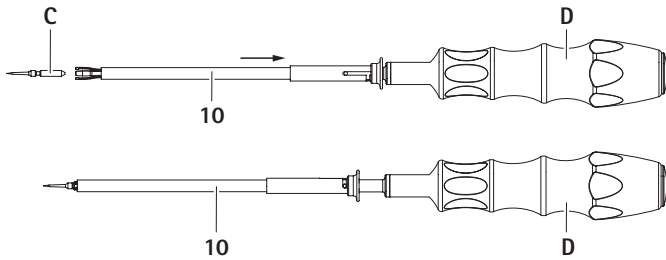

Fig. 5
- ▶ Insert the fixation pin **C** into the instrument for fixation pins **D**. To do this, pull back the outer sleeve **10** of the instrument for fixation pins **D**, see Fig. 5.